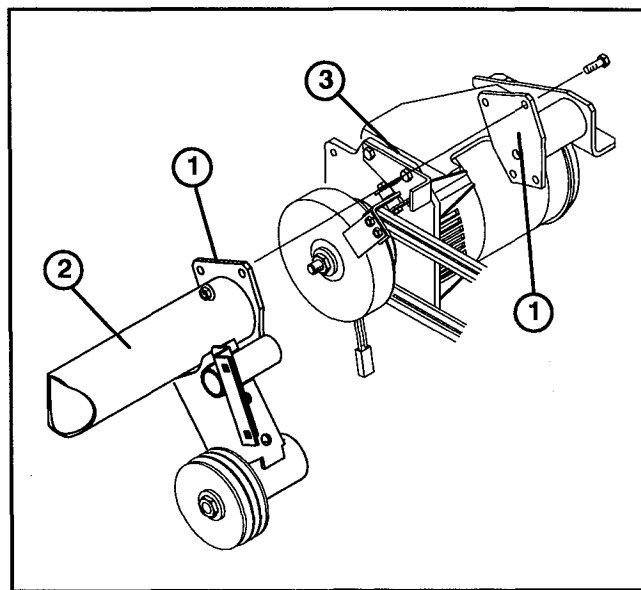

Figure 14
52. Remove all paint from mating areas of jackshaft support tube and generator mounting bracket with sand paper, to assure generator is grounded to vehicle frame (Fig. 14).
53. Mount generator to jackshaft support with (4) 5/16-18 x 1-1/4" lg. capscrews and flangenuts.